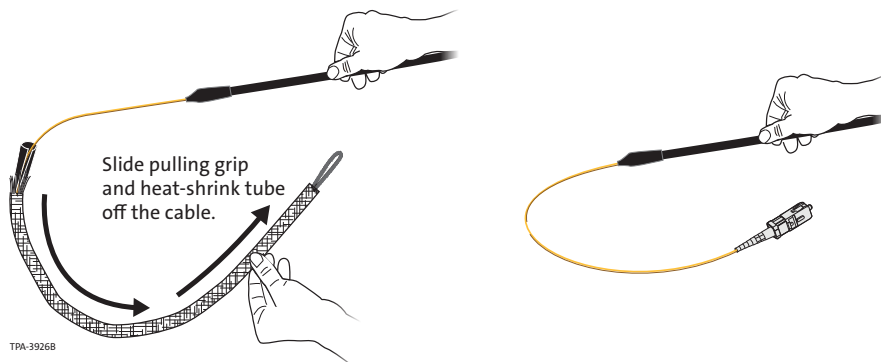

Figure 7
Step 4: Remove the pulling grip and heat-shrink tube at the same time to expose the internal cable with the SC APC connector (Figure 7).